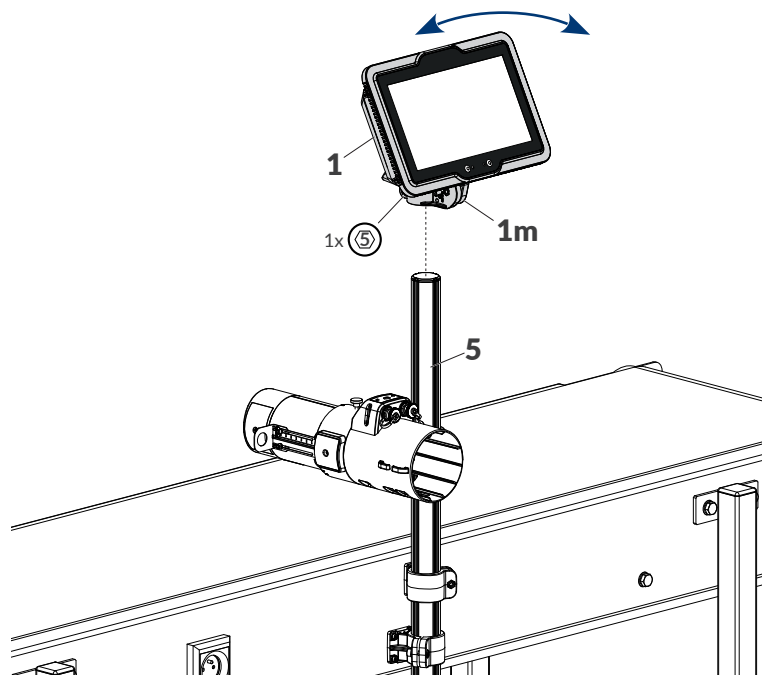

Fig. 20.
7. Fasten control unit **1** to support beam **5** (see Fig. 20).